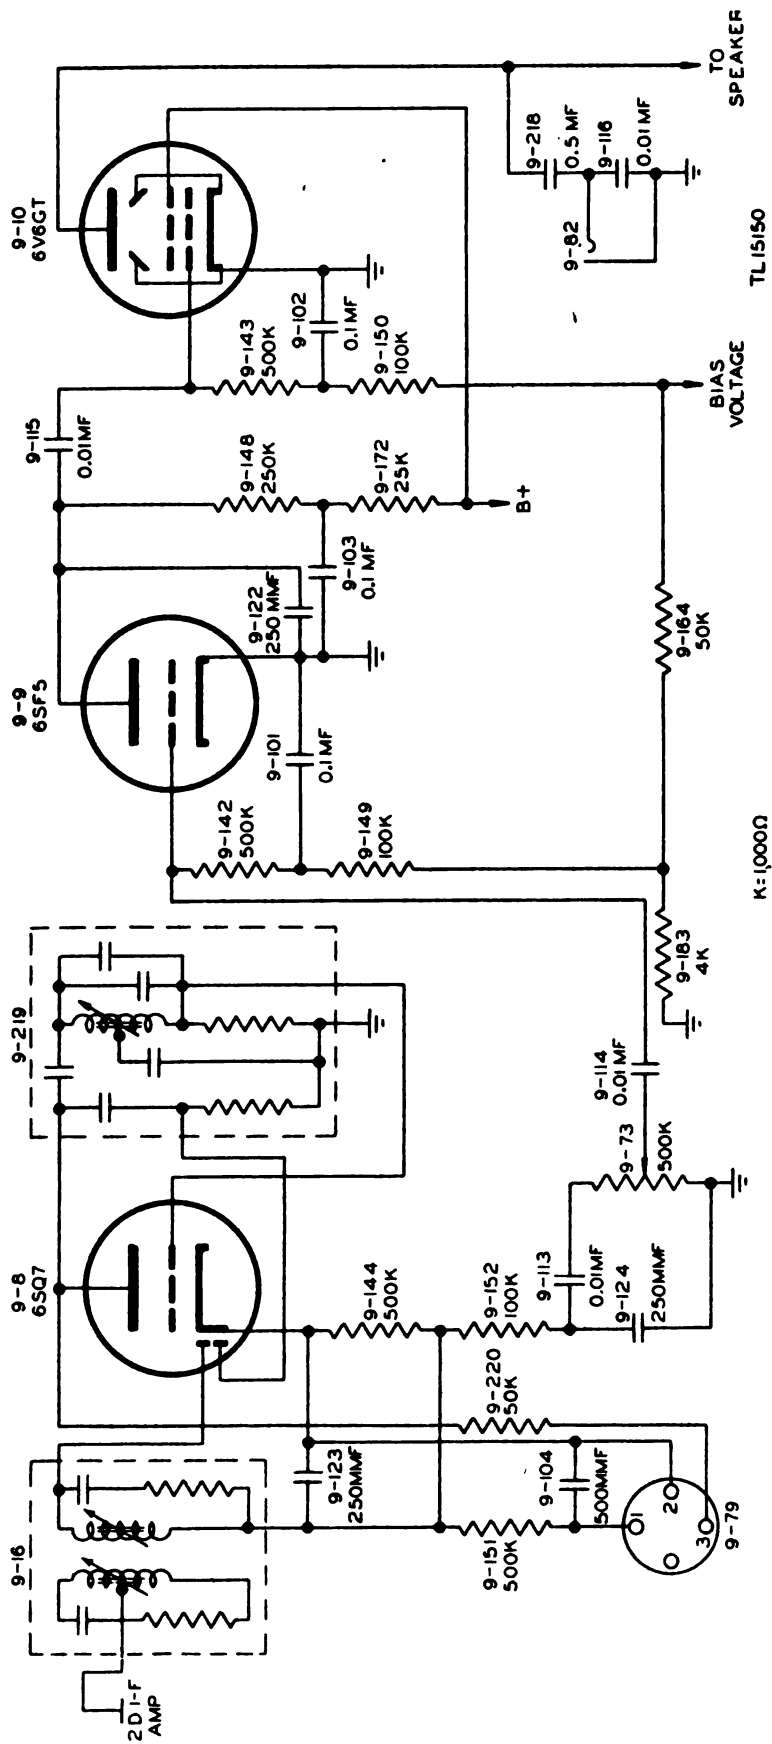

Figure 29. Detector, BFO, and audio-amplifier circuit.
46. DETECTOR, BFO, AND AUDIO AMPLIFIER (fig. 29).